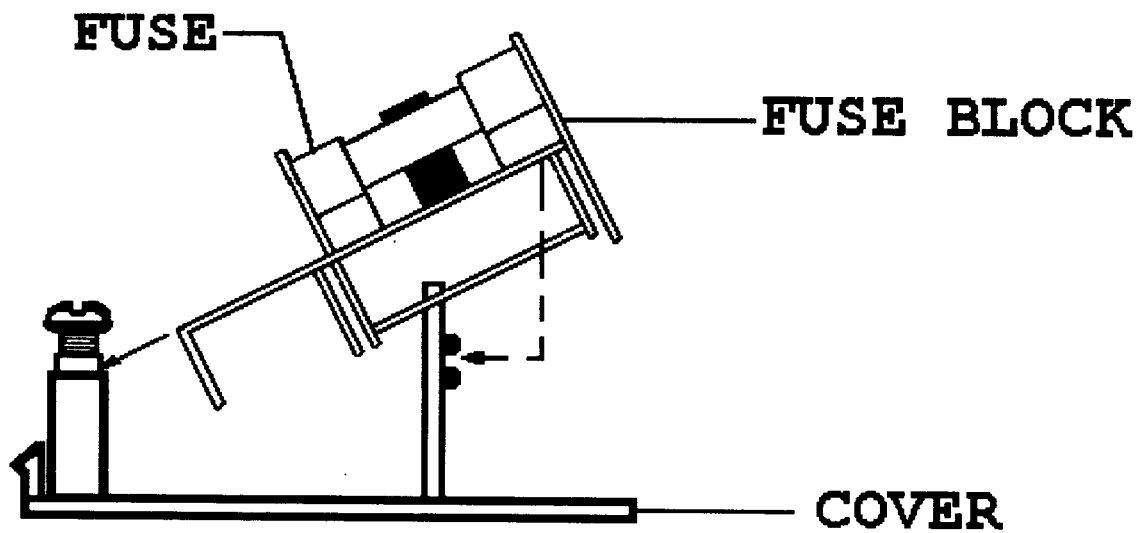

FIGURE 9
2. Loosen the Phillips screw 2 full turns (*Figure 9*).
3. Remove the fuse block by sliding it up and away from the screw shaft and lifting it off the pedestal (*Figure 9*).